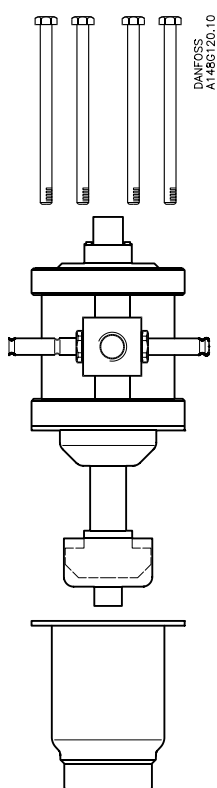

Fig. 3
See fig. 3 and table 1.
Remove the actuator before welding (fig. 3). OBS: Be sure not to damage the teflon cone ring and the spindle. If these parts are damaged the valve will leak.
Remove welding slag and dirt from pipes and housing. The valve cone is protected with a cap. (B) Remove this cap before the valve is assembled (fig.3). OBS: Only 1 hot gas supply is required (Cf. Illustration A on fig. 4a); connect this supply to the pilot valve armature.